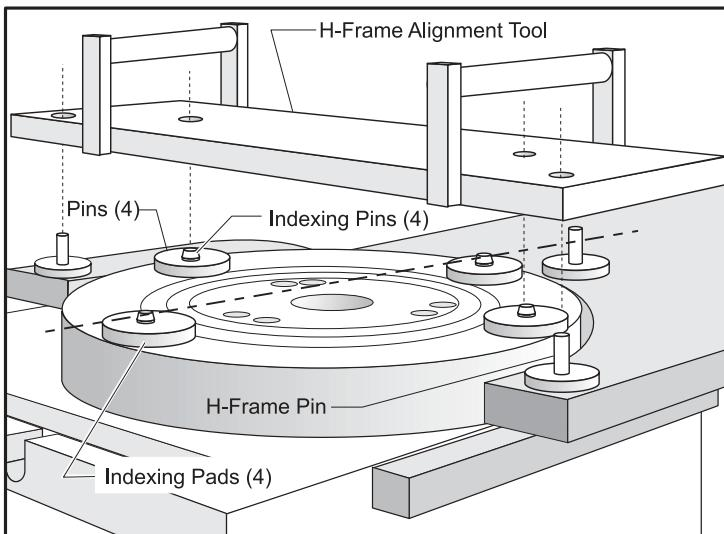

Figure 3.14-3
6. With the platter still at the top of its travel, manually jog it **COUNTER-CLOCKWISE** to the first rough alignment of the platter indexing pins with the H-frame pins. See figure 3.14-3.